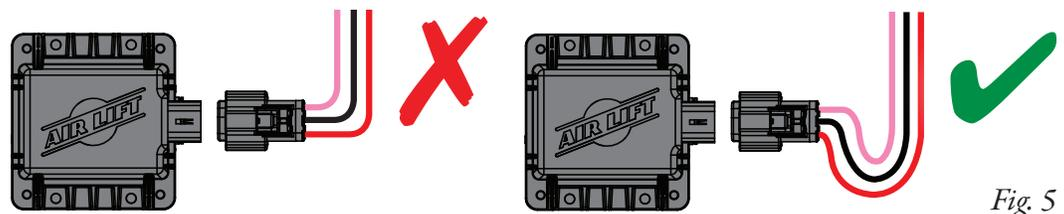

Fig. 5
3. Connect the wiring harness (E) to the manifold (B) (Fig. 2). Press the connector on completely and listen for an audible "click". Ensure a proper drip loop exists to prevent water intrusion (Fig. 5). Install the fuse (G) last. The system will automatically fill to 5 PSI (.34BAR) once the fuse is installed.